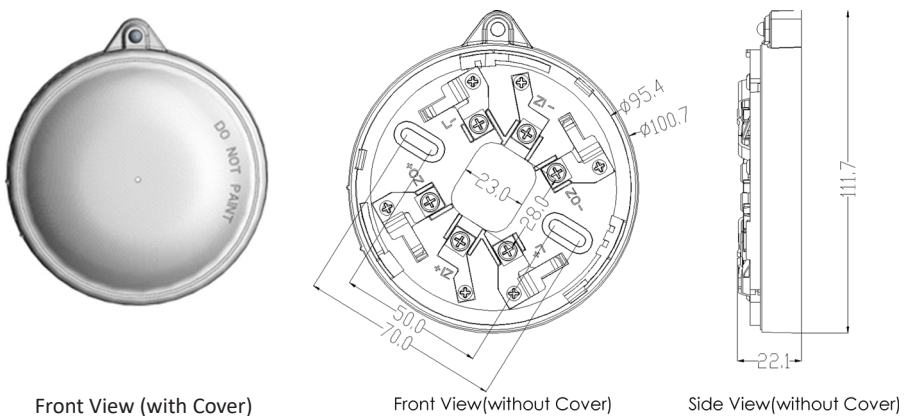

Figure 1 External view of Isolator base
1. The appearance of the Isolator Base is shown in Figure 1. Figure 1-a, 1-b and 1-c are front view with a cover, front view without a cover and side view without a cover, respectively.
2. As shown in Figure 1-b, “ZI+” and “ZI-” are the positive and negative terminals of the bus input. ZO+ and ZO- are the positive and negative terminals of the bus output. “L+” and “L-” are used to connect the remote-control lights.